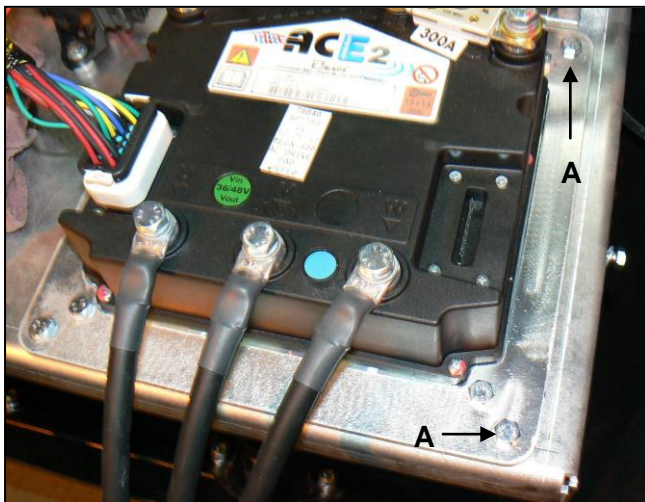

Figure 8-13
5. The controller is secured to a mounting plate with 4 four 6 mm nuts, washers and bolts. This plate is secured to the vehicle with 4 additional 6 mm bolts (Figure 8-13 A). Remove these bolts first which will allow the controller and mounting plate to be removed. Remove the 4 mounting plate 6 mm bolts, washers and nuts to release the controller.